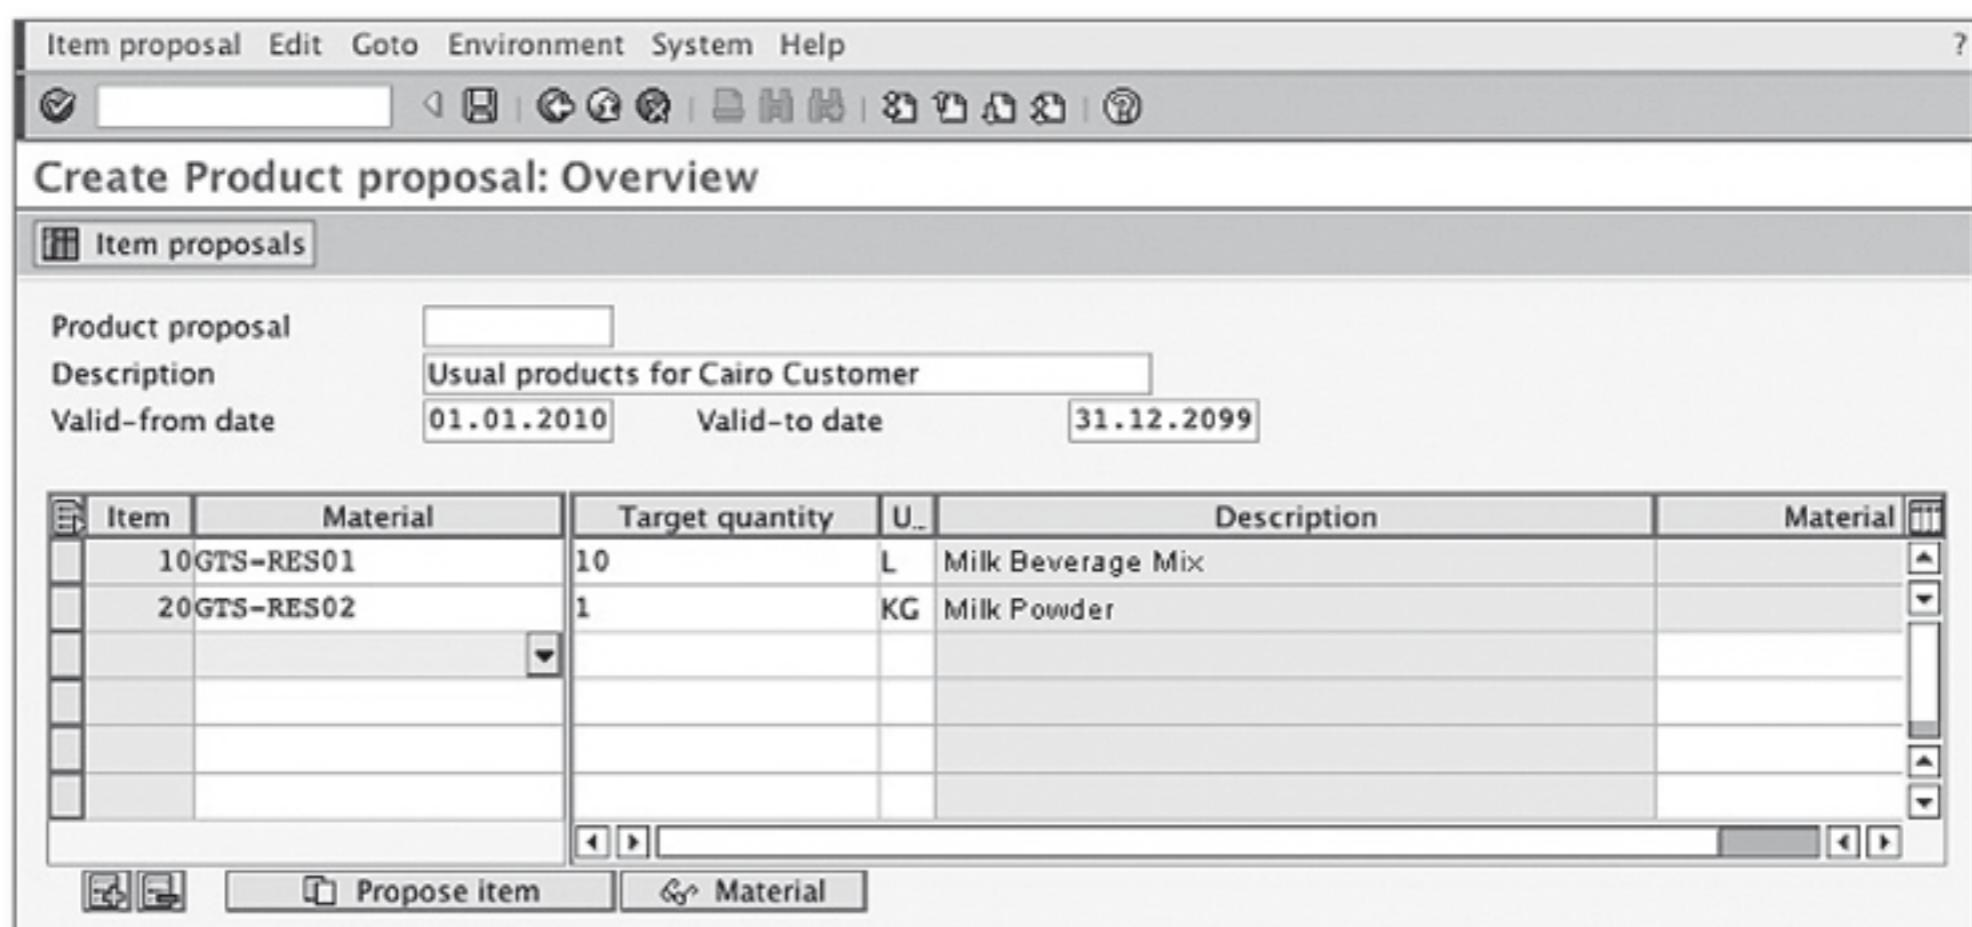

Figure 2.8 Create Product Proposal Overview Screen
3. Enter a description for the proposal and the materials and quantities to complete it, as shown in see Figure 2.8.